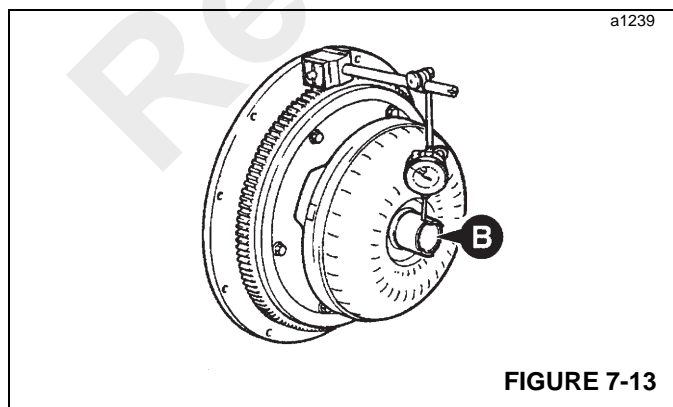

FIGURE 7-13
3. Apply Loctite® 243 to the threads of four new special drive plate retaining bolts (2), attaching the drive plate to the torque converter. Tighten the bolts to 40 Nm (30 lb-ft). Remove the alignment tool and install the remaining two bolts. Tighten to a torque of 40 Nm (30 lb-ft).
4. Locate the torque converter and drive plate assembly on the flywheel. Install three bolts to attach the drive plate to the flywheel. Check the converter run-out as shown in B of Figure 7-13, which should not exceed 0.38 mm (0.015 in). Adjust as necessary.